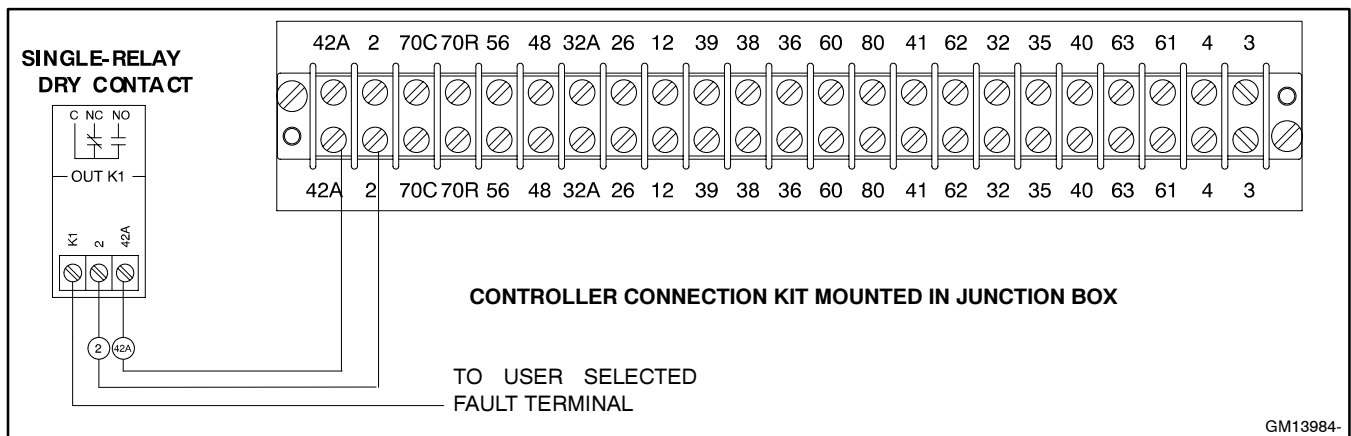

Figure 4 Single-Relay Dry Contact Relay Kit Connections
- 3.2 Connect the wiring harness (GM10186) to the single-relay dry contact kit relay input terminals. See Figure 4 for connection information.
Connect the dry contact assembly to the controller connection terminal strip using the wiring harness provided. See Figure 4. Terminals 2 (ground) and 42A (battery voltage) provide an electrical source to operate the K1 relay.